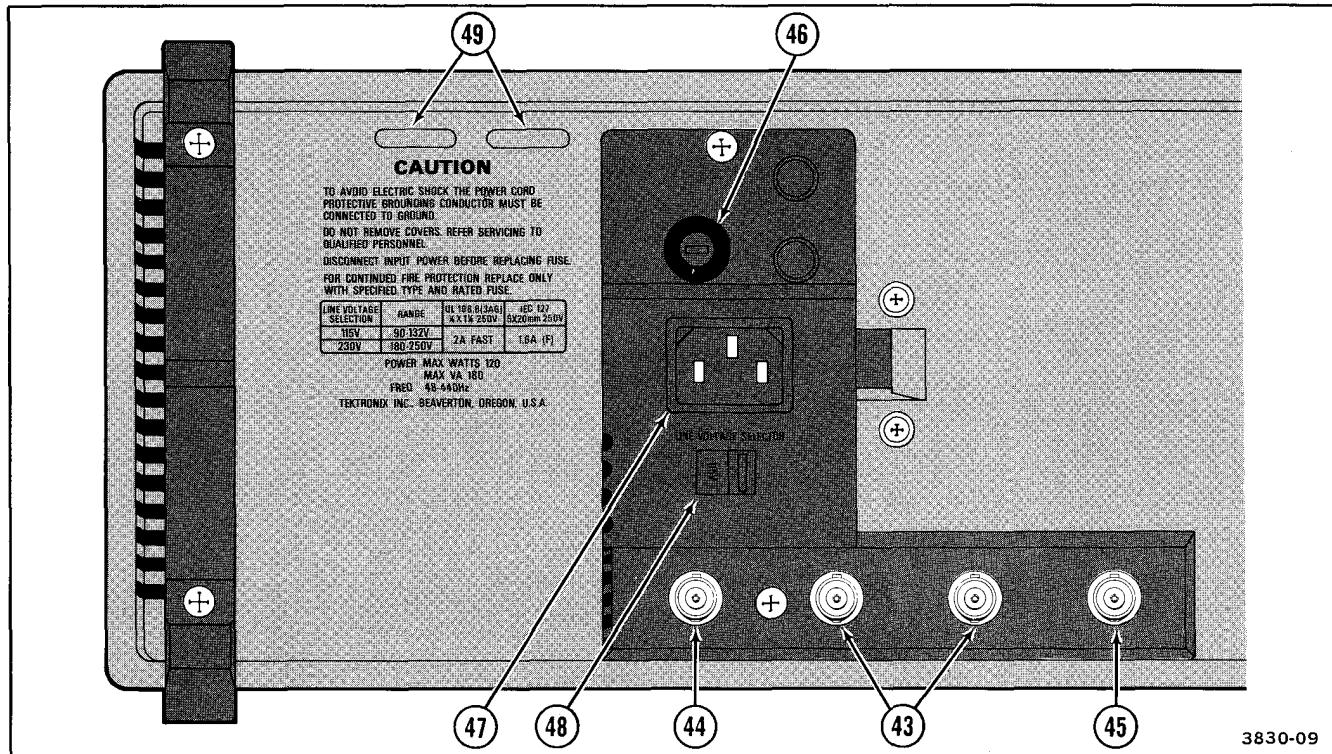

Figure 3-6. Rear-panel controls and connectors.
Refer to Figure 3-6 for location of items 43 through 49.
- (43) A GATE OUT and B GATE OUT Connectors**—Provide TTL-compatible, positive-going gate signals that are HI during their respective sweeps and LO while the sweep is not running.